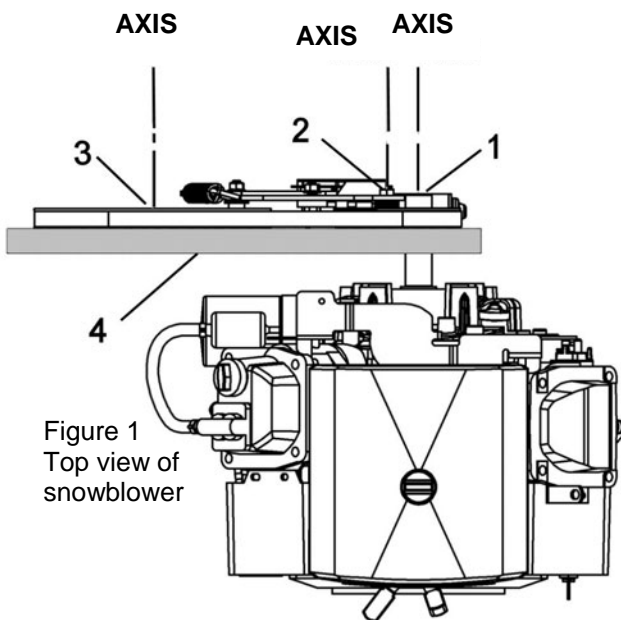

Figure 1
Install the pulley (Fig. 1, item 1) on the engine shaft as shown (hub towards the engine) with a 1/4" x 1/4" x 1 3/4" key.
After positioning the engine, it is very important that the pulleys are aligned and the axis must be parallel as shown in the two views: (fig. 1) top view of the snowblower and (fig. 2) the side view of the snowblower.